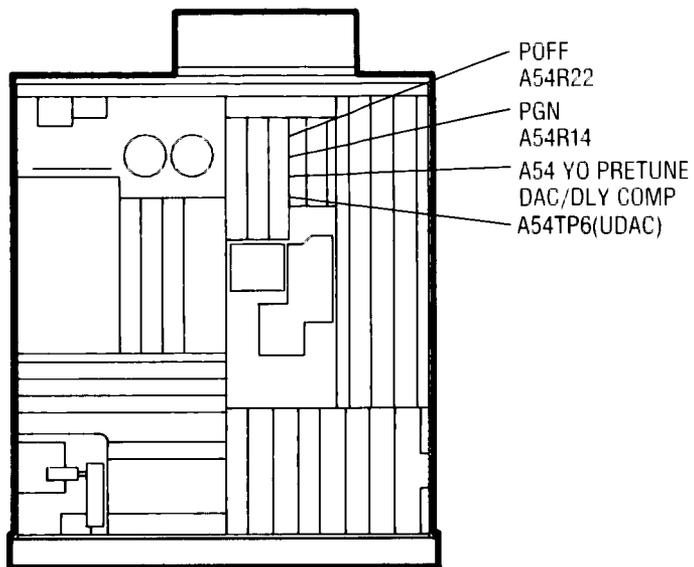

Figure 5-14. YO Pretune DAC Gain Adjustments Location
3. Connect the DVM to A54TP6 (VDAC) and adjust A54R22 (POFF, Figure 5-14) for  $-5.75 \pm 0.001$  Vdc.
5. Adjust A54R14 (PGN, Figure 5-14) for  $-17.5 \pm 0.001$  Vdc